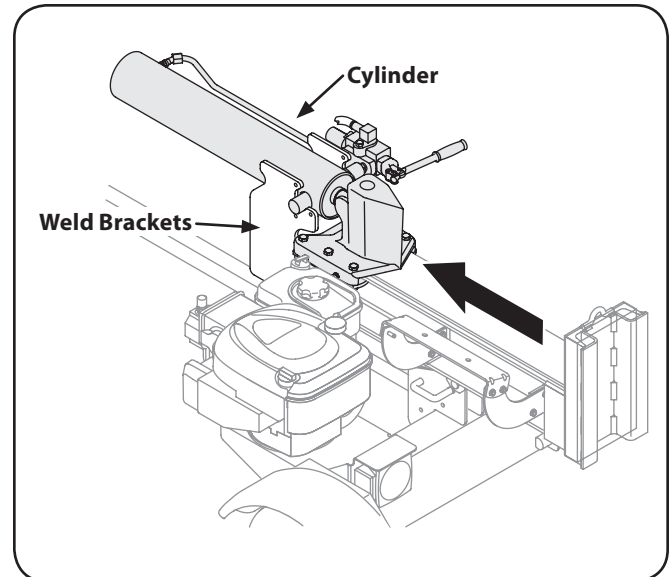

Figure 3-6
4. Lift and slide the cylinder up to the top of the beam and into the weld brackets. See Fig. 3-6.